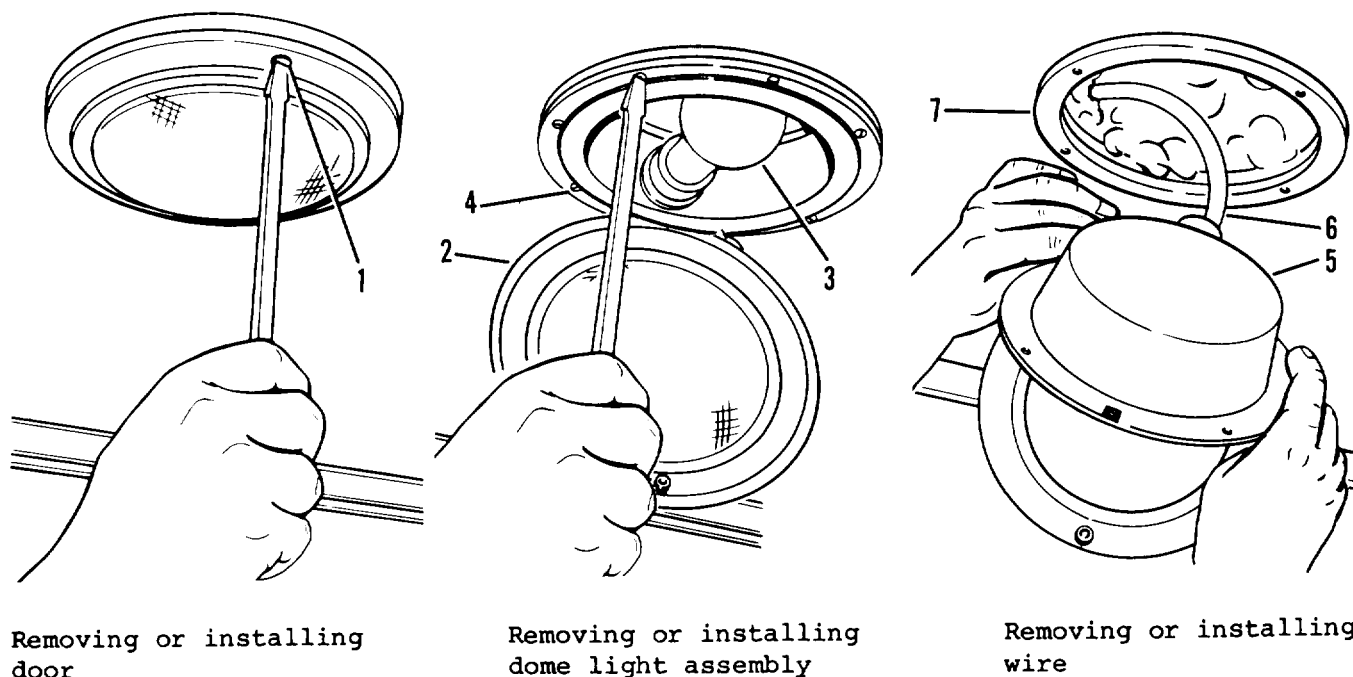

Figure 4-10. 110 volt dome light assembly replacement
- (1) Loosen captive screw (1, figure 4-10) securing door (2). Swing door (2) down .
- (2) Remove lamp (3) to prevent damage. Remove four screws (4) securing light assembly (5) to ceiling.
- (3) Remove light assembly (5) and shim (7) from ceiling. Disconnect wire (6).
- (1) Connect wire (6, figure 4-10).